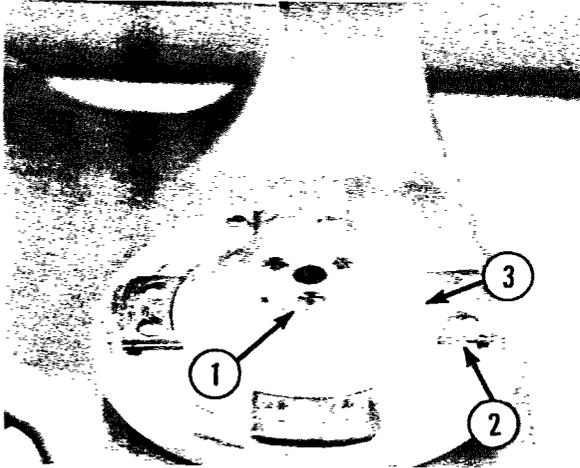

Fig. 2-36
- (17) Carefully pry up the bowl support cover located on the center of the bowl support without distorting it.
- (18) Remove the three screws (1, Fig. 2-36) holding the bowl support to the bowl support shaft and remove the bowl support. Note the shims under the support.
- (19) Remove the three bowl retaining clamps (2, Fig. 2-36). Note the clamp shims.
- (5) Install the spacer, key and bowl drive gear on the shaft.
- (6) Install the washers and retaining ring.
- (7) Install the bowl support (3, Fig. 2-36). Note the shims under the support.
- (8) Install the three bowl retaining clamps (2, Fig. 2-36). Note the clamp shims.
- (9) Apply a small amount of RTV to the center of the bowl support and press the bowl support cover into position.
- (10) Install the needle bearing in the gear case to the same position as before.